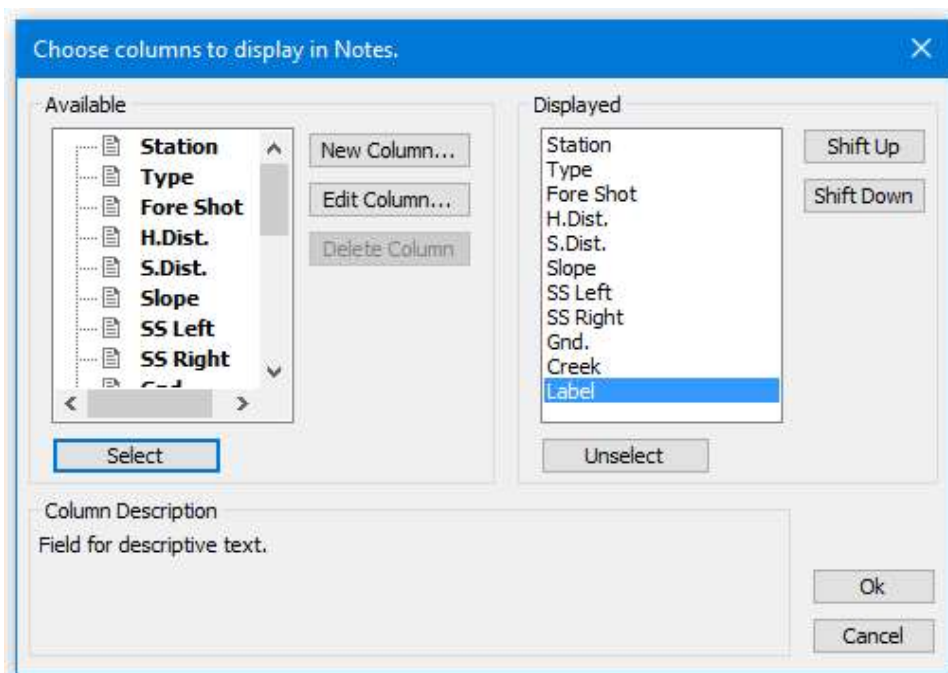

Figure 3-2: Columns Select Dialogue Box
9. Click on the *Tab/Enter Sequence* button to open a similar dialogue box to Figure 3-2. Using the same procedure as above, list in order *Label*, *Type*, *Fore Shot*, *Slope* and *S.Distance* in the *Selected* list. Press *OK* twice to close both dialogue boxes.